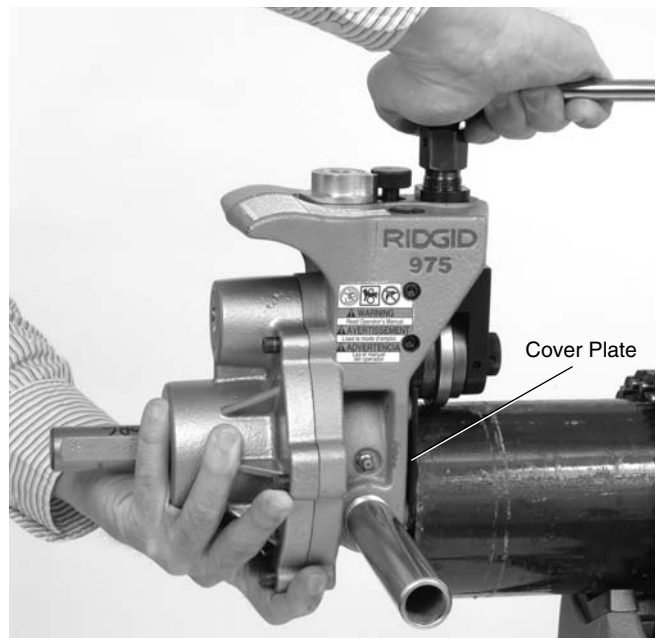

Figure 14 – Holding the Roll Groover In Place While Tightening the Feedscrew
3. Securely grasp the roll groover. Do not lift with the ratchet. Place the driveshaft into the pipe and make sure that the cover plate is tight to the end of the pipe (*Figure 14*). Tighten the feedscrew to bring the groove roll into contact with the outside of the pipe. Once the feedscrew is hand tight, use the ratchet to tighten the feedscrew an additional ¼ turn. Confirm that the roll groover is securely attached to the pipe and the cover plate is flush to the end of the pipe. If not, repeat procedure. Always make sure groover is secure when used in place to prevent it from falling.